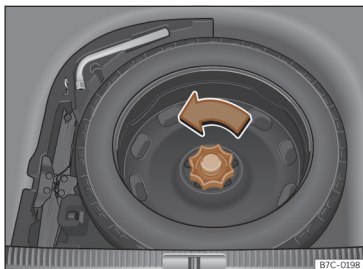

Fig. 205 In the luggage compartment: raised load floor.
- Turn the thumb wheel anticlockwise >>> Fig. 205.